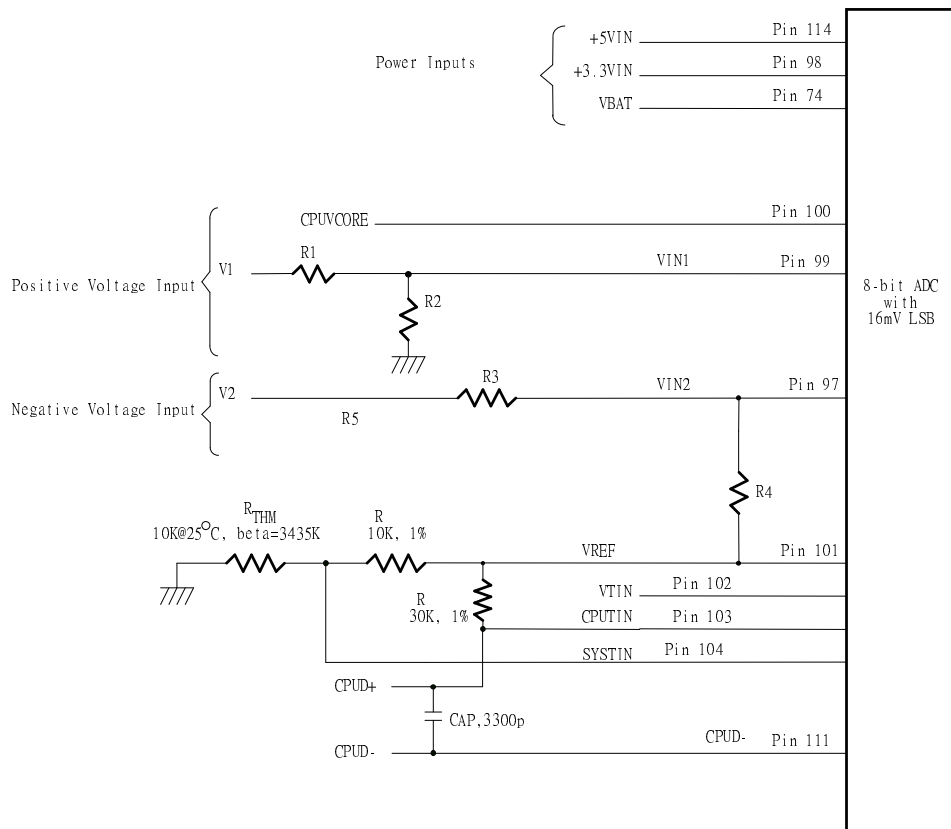

Figure. 6.2
The maximum input voltage of the analog pin is 4.096V because the 8-bit ADC has a 16mV LSB. Really, the application of the PC monitoring would most often be connected to power suppliers. The CPU V-core voltage, +3.3V, battery(pin 74) can directly connected to these analog inputs. The +12V voltage inputs should be reduced a factor with external resistors so as to obtain the input range. As Figure 6.2 shows.
The W83637HF can connect three thermistors to measure three different environment temperature. The specification of thermistor should be considered to (1) β value is 3435K, (2) resistor value is 10K ohms at 25°C. In the Figure 6.2, the thermistor is connected by a serial resistor with 10K Ohms, then connect to VREF (Pin 101).